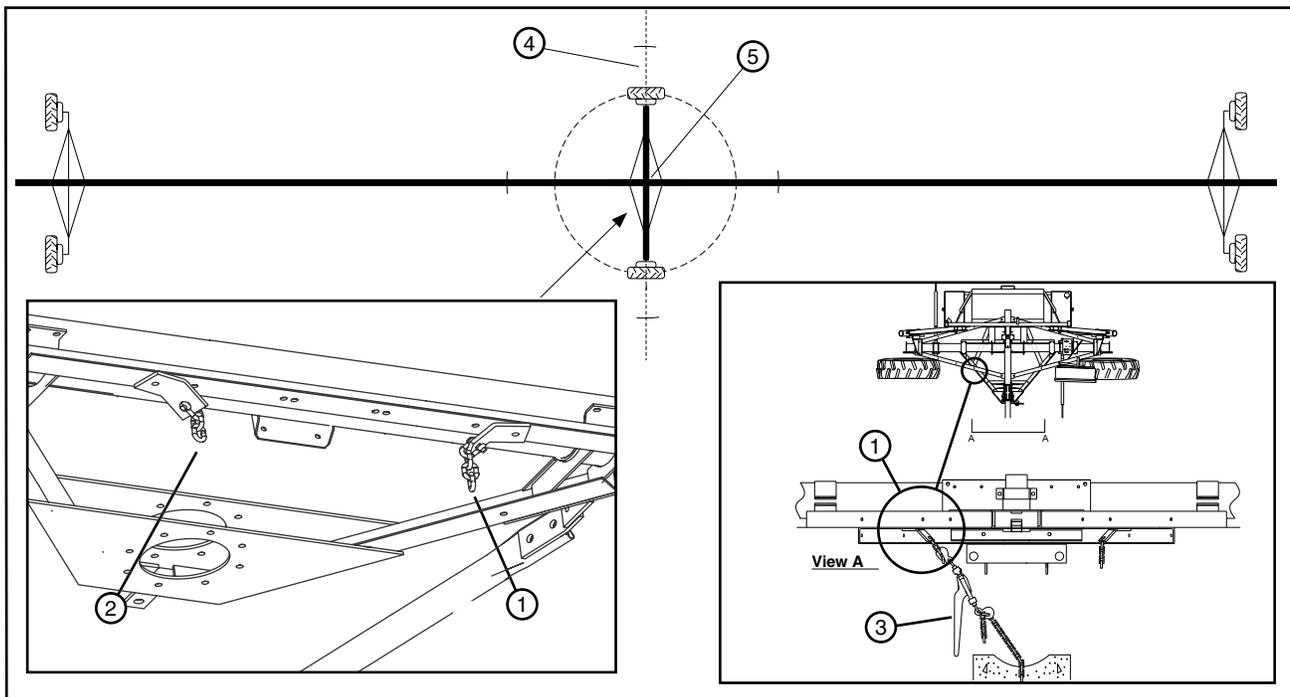

Figure 78-3 Concrete Anchor Method.
6. When the machine is started it will pivot around the center of the base beam. See Figure 78-3.